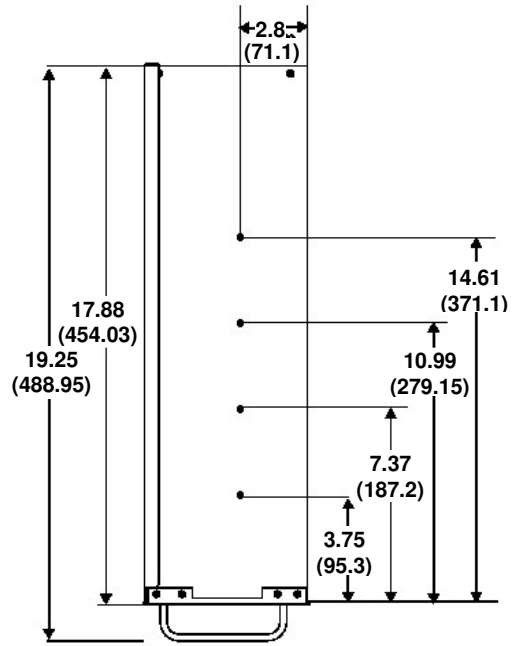

Figure 2-5. Side View Dimensions
2. Open the 1600 unit by removing the three screws from the top cover (see Figure 2-5).